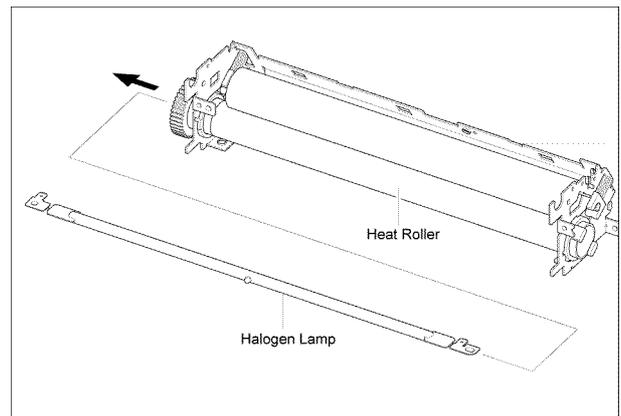

Figure 11
12. Slide the halogen lamp out of the fuser and remove the halogen lamp, Figure 11.